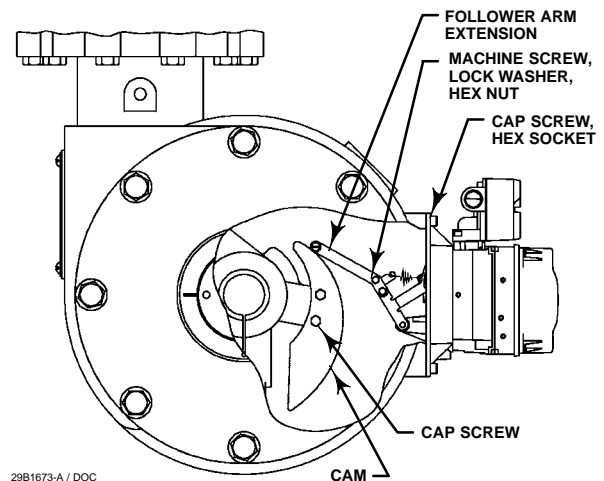

Figure 2-6. FIELDVUE DVC6020f Digital Valve Controller with Long Feedback Arm and Follower Arm Extension Mounted on a Rotary Actuator
5. Larger size actuators may require a follower arm extension, as shown in figure 2-6. If required, the follower arm extension is included in the mounting kit. Follow the instructions included with the mounting kit to install the follower arm extension.